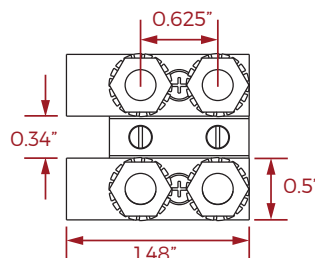

Figure 5. Input Bus Bar Detail
9.2 Input Connections. See Figure 5. The DC power inputs to the distribution panels are made by means of crimp type lugs or direct connection to 1/4-20 studs to two copper bus bars on side A and side B. The upper bus bar is the battery connection (whether + or -) and the lower bus bar is the return (whether + or -).